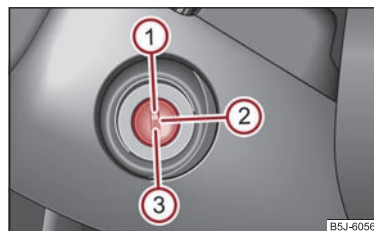

Fig. 94 Ignition lock positions
- The engine can be switched off by turning the ignition key from position  into ⇒ page 89, fig. 94.